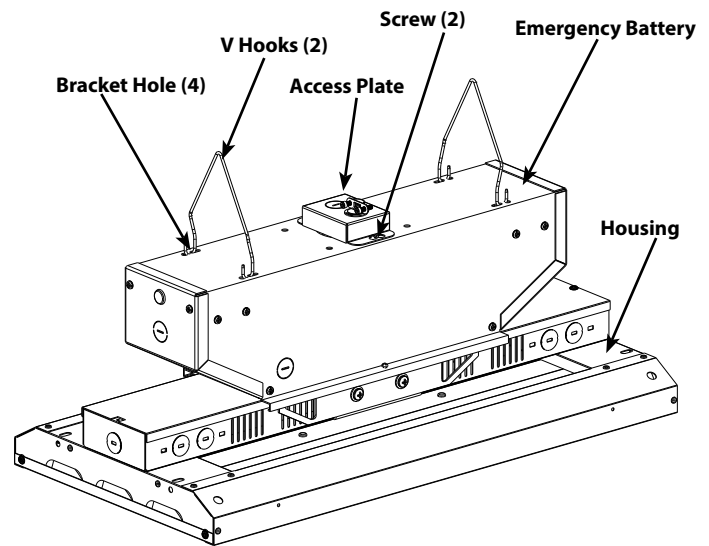

Fig. 1
1. **V Hooks (2)** and **Chain** are provided for mounting. Secure **V Hooks** through **Bracket Hole** at back of **Housing** as shown (Fig. 1).
4. Reinstall **Access Plate** and secure with supplied **Screws (2)**.